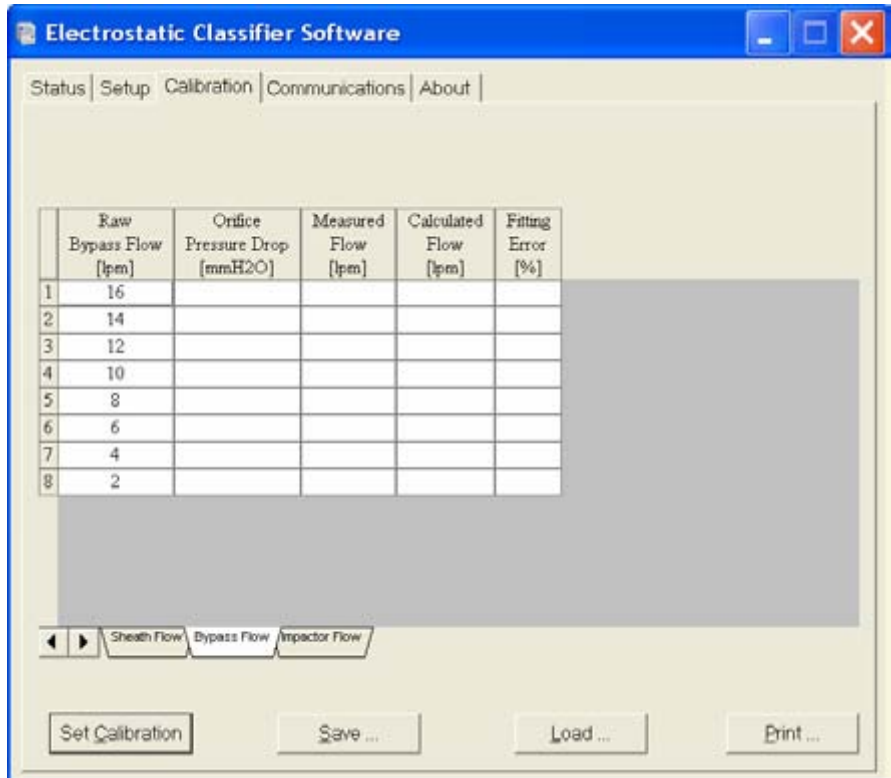

Figure D-7
7. Set **Bypass Flow** to 2 L/min and wait for the flow to stabilize. Take five (5) samples and average them. Record the Pressure drop (dP) and flowmeter (Qcal) readings.
9. Enter the data into the EC program under Bypass Flow Calibration tab (Figure D-7) and click on the **Set Calibration** button.